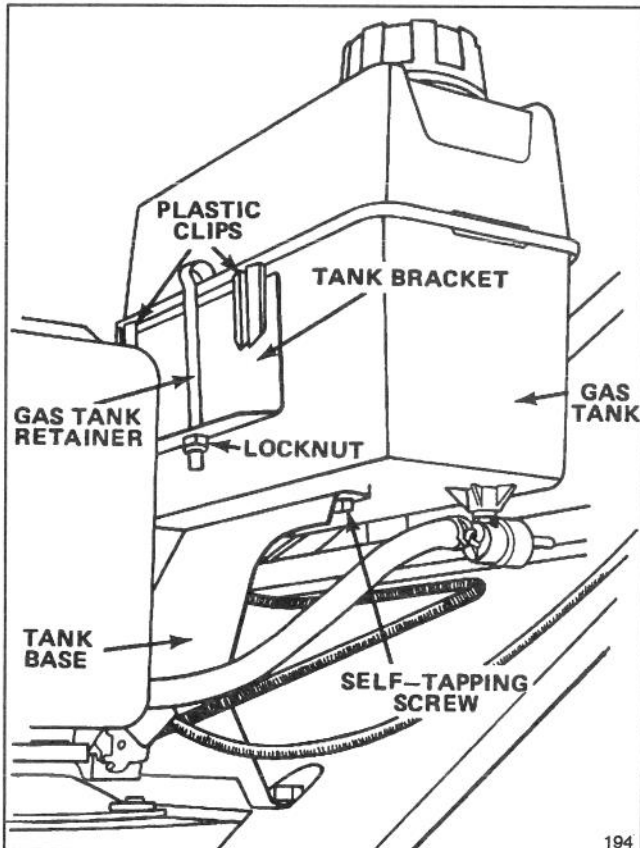

Figure 6
2. Hook plastic clips on rear of gas tank onto tank bracket (Fig. 6).
3. Secure gas tank to tank base with (2) self-tapping screws (Fig. 6). Do not overtighten screws.
4. Hook gas tank retainer onto gas tank and slide end of retainer into hole in tank bracket. Secure retainer to tank bracket with locknut (Fig. 6). Do not overtighten.